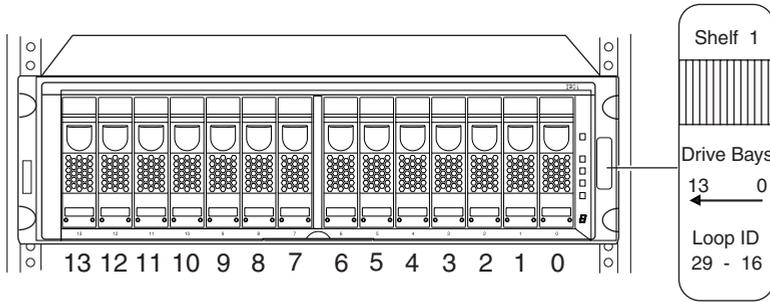

Figure 1. Shelf ID label
The 14 drive bays in the EXN2000 expansion unit are numbered 0 through 13 from right to left, as shown in Figure 1 on page 8. Hard disk drives should be populated in adjacent drive bays in the expansion unit in this sequence, beginning with drive bay 0.
- c. Select the correct matching shelf ID label identified in Figure 1 on page 8 and attach it to the right flange of the new EXN2000 expansion unit.